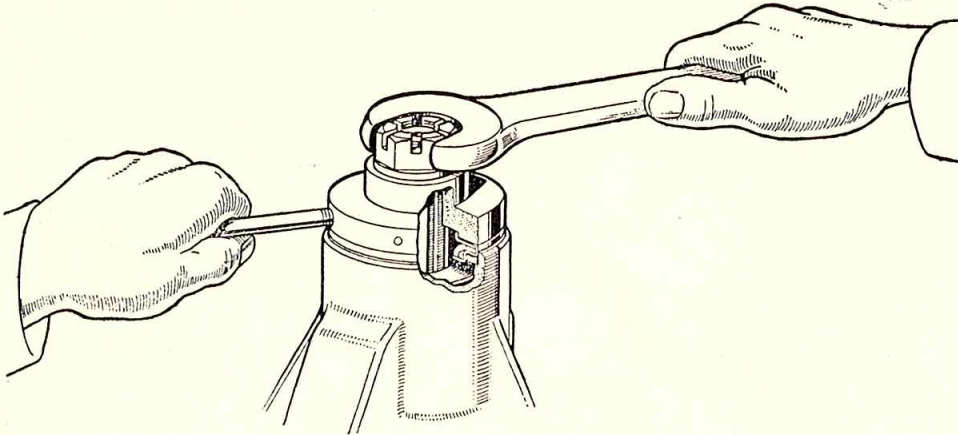

Fig. 19. Fitting the pinion oil seal.
- (1) Remove the drive pinion nut, washer and companion flange.
- (2) Install the oil slinger, and then fit the pinion oil seal assembly, using Tool No. SL4P/B, as shown in Fig. 19. Place the oil seal with the dust excluder flange uppermost (not omitting the oil seal gasket used with the metal case type seal on later models), fit the installation collar, Tool No. SL.4P/B, and then tighten down the pinion nut and washer to drive the assembly home. Remove the installation collar.
- (3) Fit the companion flange, washer and pinion nut, tighten securely.
- (4) Fit the rear cover gasket, renewing it if required, and rear cover, securing same with set bolts and lock washers, not omitting the ratio tag which is attached by one of the set bolts.
- (5) Re-install the axle shafts and hub bearings, etc., as described on page H.10 under "Axle Shafts To Refit".
- (6) Check that the drain plug is securely tightened, then fill with the appropriate quantity of one of the hypoid lubricants recommended on page H.8.
- (7) Replace the filler plug and check that the cover set bolts are tight.
- (8) Check for oil leaks at the cover, pinion oil seal and where the differential cap bolt holes break through.
- (9) Finally grease the hub bearings.